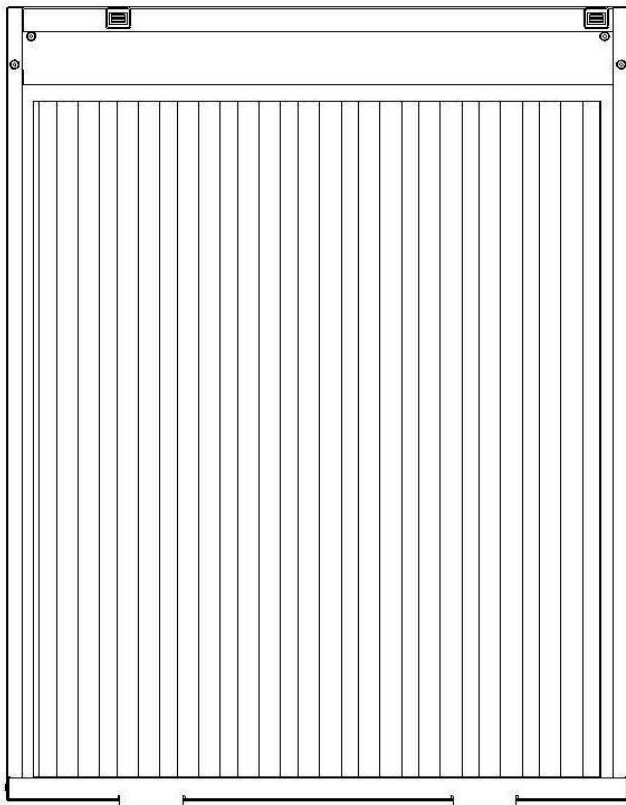

Figure 3: Return Air Louvered Door 20” x 20” x 1” Air Filters
7. Slide the air filters in place in the door so both air filters are installed as shown in Figure 3.